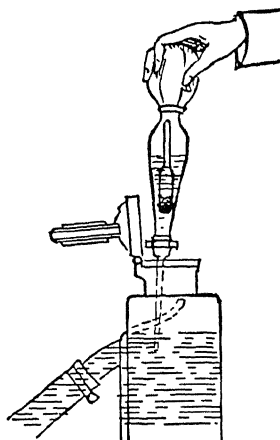

Fig. 26. Anti-Freeze Solution Should Be Tested Weekly
**Testing the Strength of the Anti-Freeze Solution.** Hydrometers, Fig. 26, are supplied to test the density of any of the three popular anti-freezes. These are very similar to those used for testing batteries. The workman doing the job should make certain that he understands exactly how to read the tester. Not all makes are read the same. The storage battery specific gravity hydrometer may be used for testing the distilled glycerine solution. The reading will be according to the following chart: